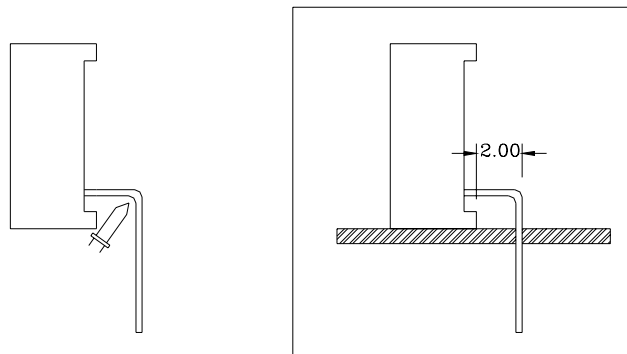

Fig.5
1) The PIN should be bent at a point located at least 2mm away from the package. Bending should be performed with base fixed means of a jig or pliers (Fig.5)